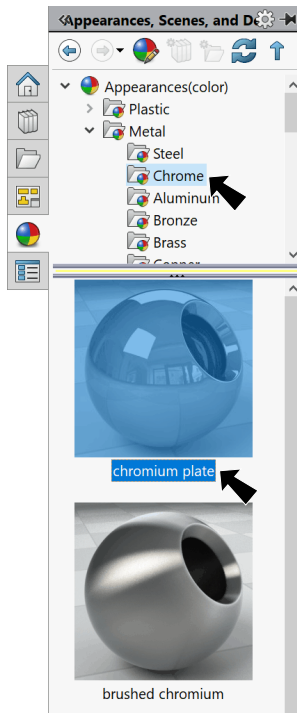

Fig. 66
Step 2. In the Appearances Task pane, expand **Metal** and click **Chrome** and in the lower pane select **chromium plate**, Fig. 66.